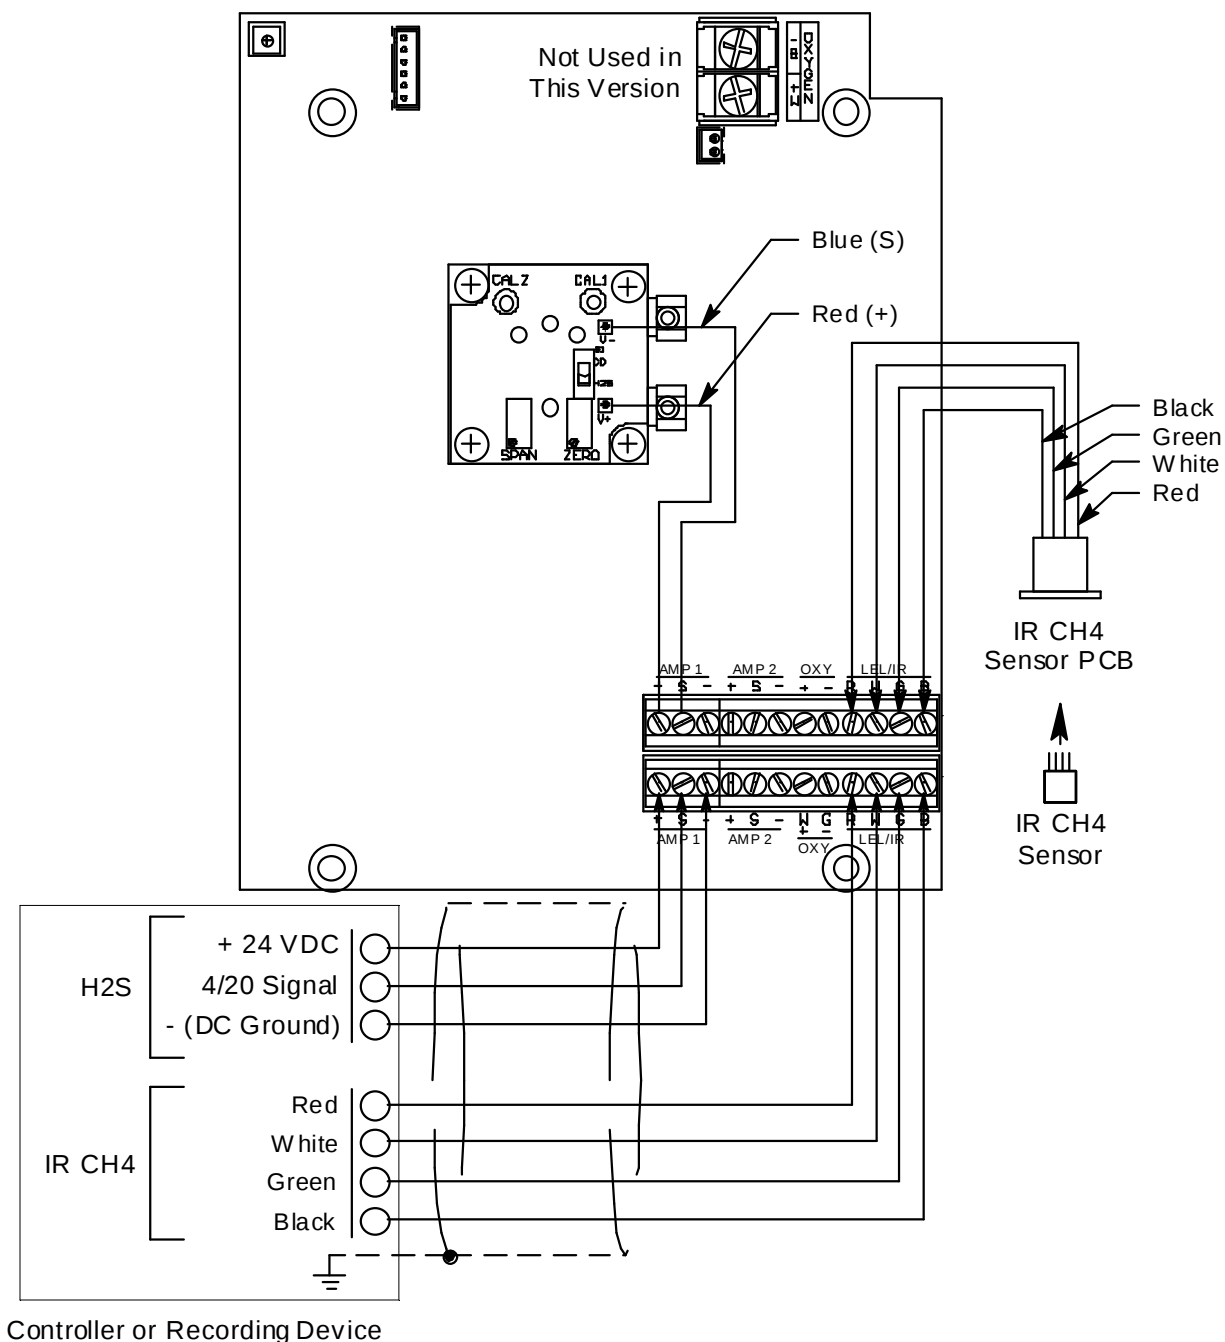

Figure 5: Wiring the Sample-Draw Detector to a Controller
5. Connect the cable to the sample-draw detector’s interconnect terminal strip as shown in Figure 5.
8. Connect the wires to the applicable detector/transmitter terminal strip at the controller as shown in Figure 5. Refer to the controller operator's manual and the controller detector head specification sheet for the 35-3001-07-01 for detector/terminal strip connections specific to the controller.